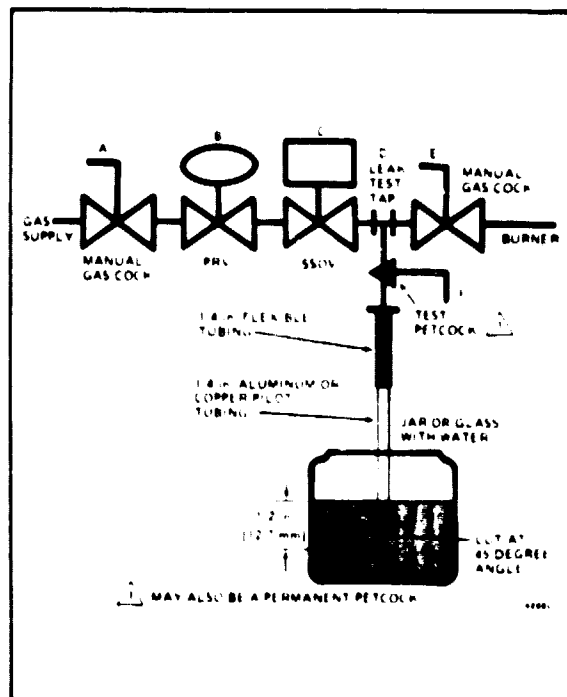

FIG. 7—VALVE LEAK TEST.
VALVE LEAK TEST (FIG. 7)
1. De-energize the control system to ensure that there is no power to the safety shutoff valve (C), shown in Fig. 7.
2. Close the upstream manual gas cock (A).
3. Make sure the manual test petcock (F) is closed in the leak test tap assembly (D).
4. Remove the leak test tap plug and connect the test apparatus to the Leak Test Tap (D).
5. Close the downstream manual gas cock (E).
6. Open the upstream manual gas cock (A).
7. Run the safety shutoff valve (C) to its fully open position (through the safety system), then immediately de-energize the system to close the valve.
9. Slowly open the test petcock (F).